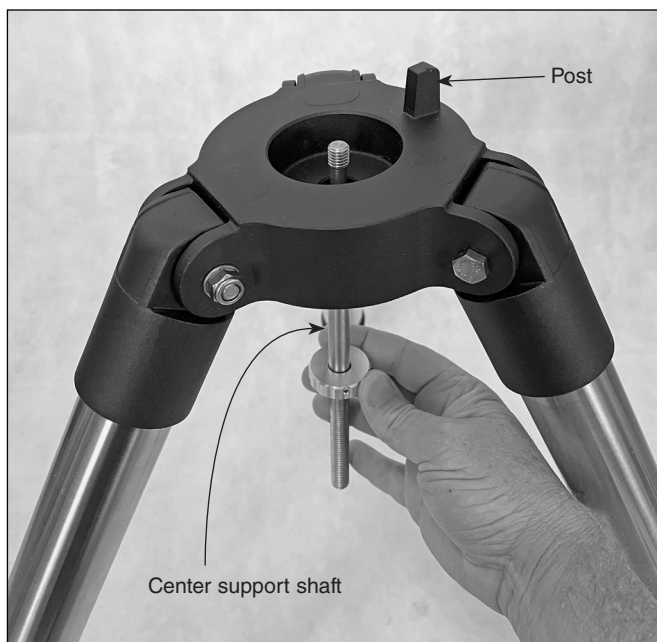

Figure 3. Thread the center support shaft up through the tripod head.
2. Now thread the narrow end of the center support shaft into the underside of the hole in the tripod head, as shown in **Figure 3**. Thread the shaft clockwise until the threaded end of the shaft is completely through the hole. Then the shaft will be captive in the tripod head.